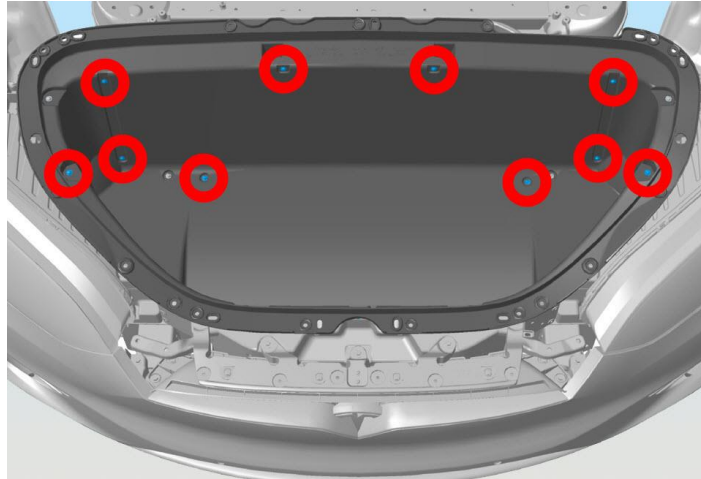

Figure 16. Underhood storage unit fasteners (1/3)
- 10 fasteners as shown (Figure 16).